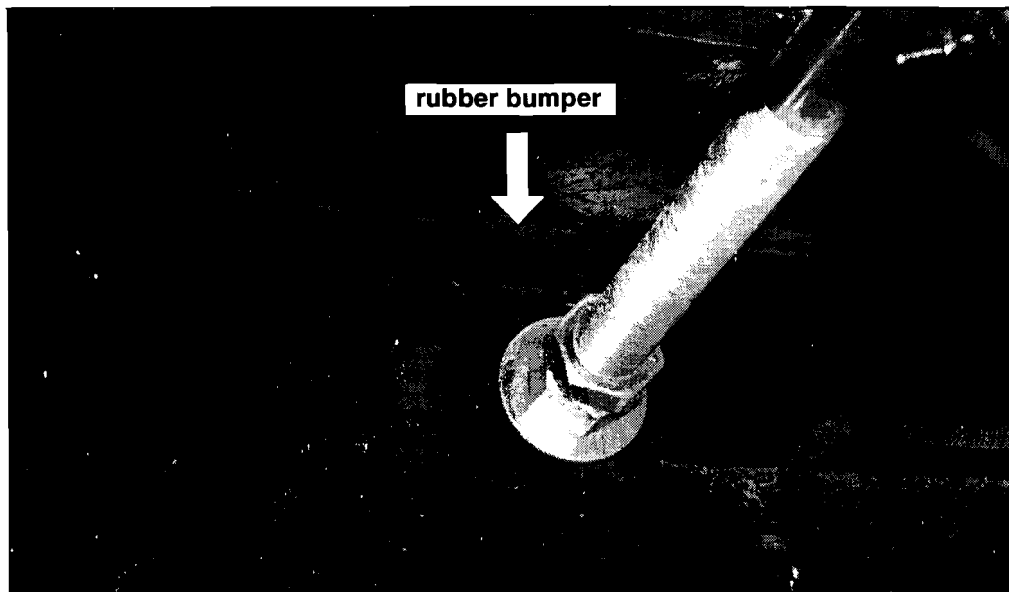

Figure 3. Reference photo.
11. Locate the four existing rubber bumpers on the tag axle suspension assembly ( Figures 3 and 5 ).